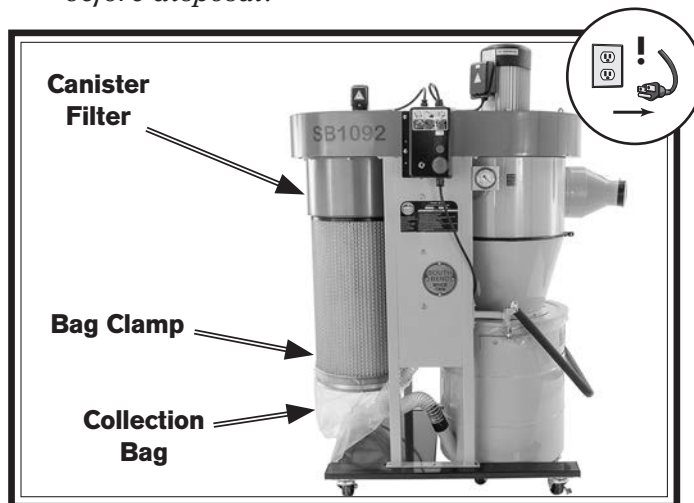

Figure 60. Filter collection bag components.
2. Release bag clamp around bottom of canister filter, then remove filter collection bag (see **Figure 60**).